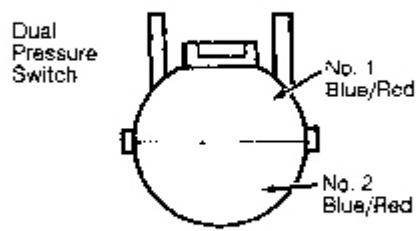

Fig. 2: Identifying Dual Pressure Switch Wires
4. Inspect fuse No. 15. Replace as necessary. If fuse is okay, turn ignition off. Disconnect dual pressure switch. Connect No. 1 Blue/Red wire to ground. See **Fig. 2** . If both fans do not come on, repair open in Blue/Red wire between diode and dual pressure switch.
2. Connect jumper wire between No. 1 Blue/Red and No. 2 Blue/Red wire terminals if compressor and both fans run. See **Fig. 2** . If compressor and both fans run, replace dual pressure switch. If compressor and both fans do not run, reconnect dual pressure switch.